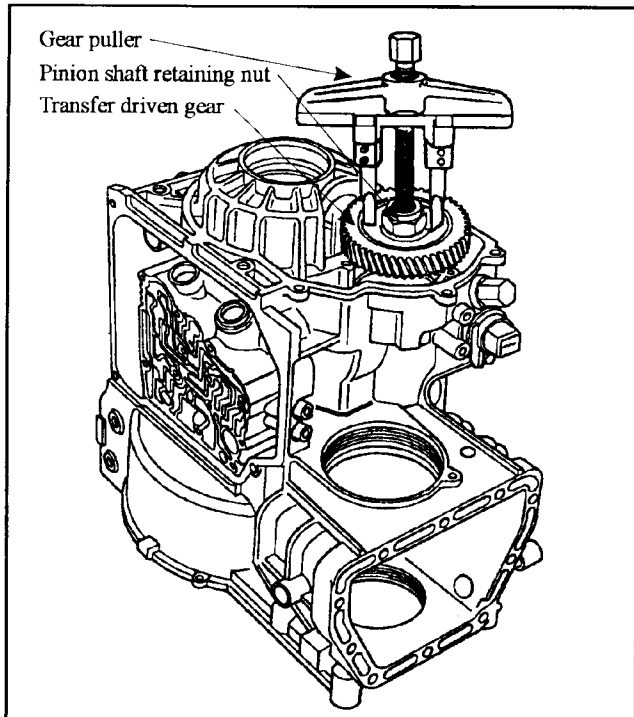

Figure 93
7. Using a gear puller carefully remove the transfer driven gear from the pinion gear shaft (See Figure 93).